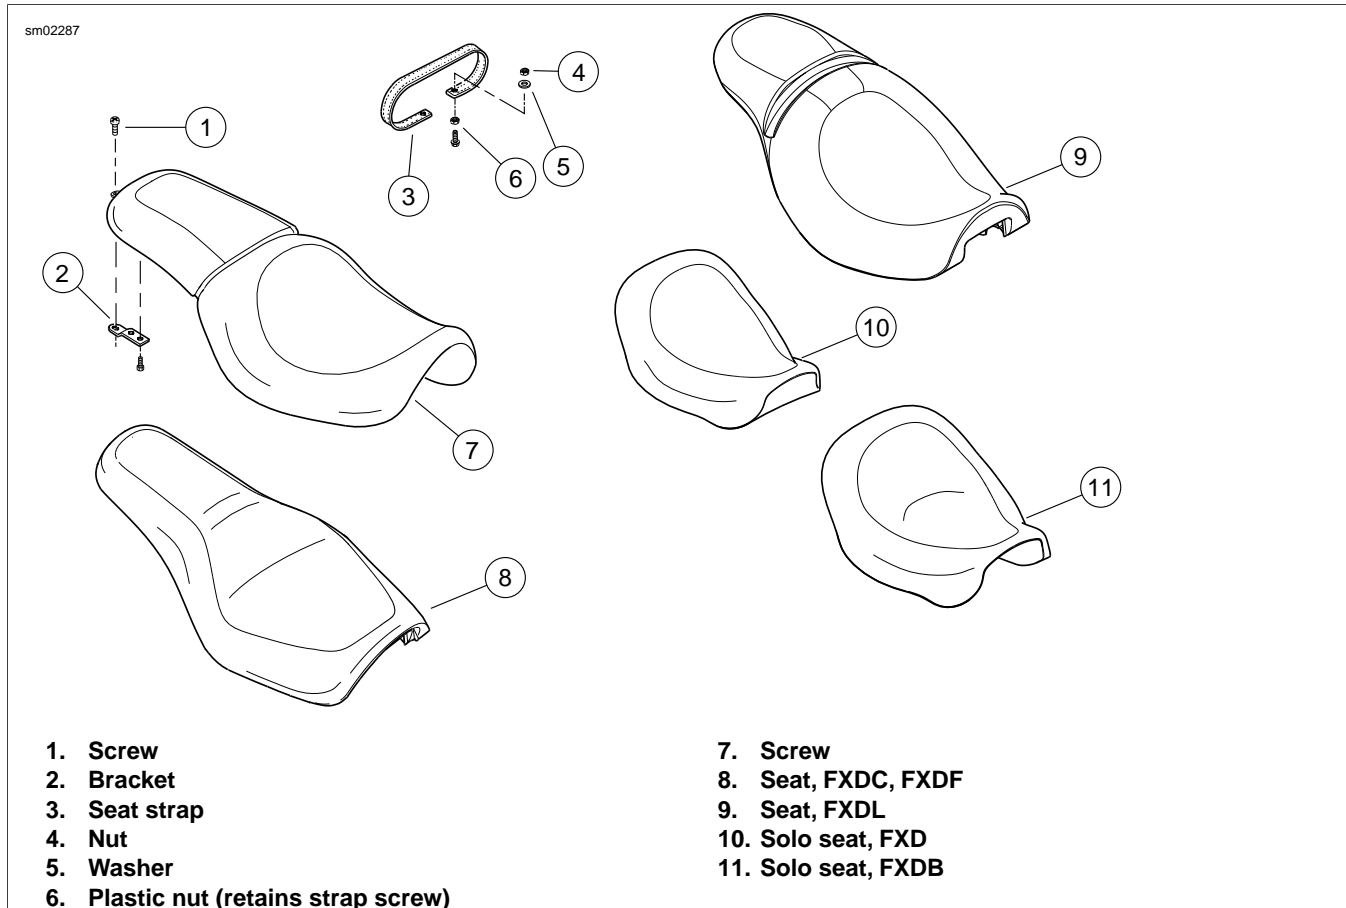

Figure 2-112. Seat
See Figure 2-112. There is a nylon retaining clip between the rear seat bracket and the fender. **DO NOT** lose this clip, substitute a clip of different material or install the seat without this clip. Any of the above actions will result in scratched fender paint. The nylon retaining clip secures the seat screw nut.
1. See Figure 2-112. Remove screw (1) from rear seat bracket (2). (Nylon clip remains with fender assembly.)
1. See Figure 2-112. Install seat strap.
- a. Fasten nut (4) and washer (5) above seat strap on frame.
- b. Tighten nut (4) to 60-90 **in-lbs** (6.78-10.17 Nm).